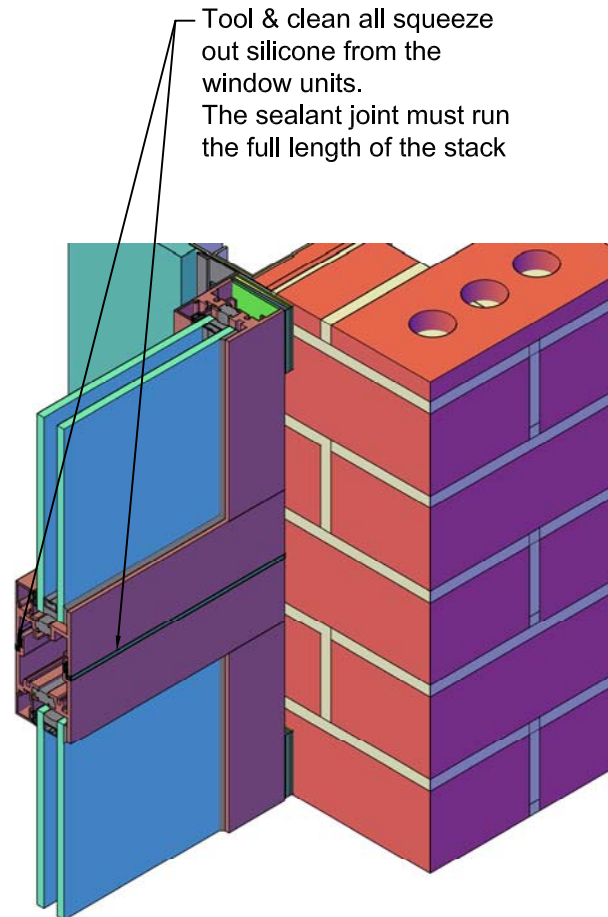

Fig. 9
8) Position the second window unit in place. Tool & clean all squeeze out silicone from the window units. The sealant joint must run the full length of the stack. See Fig. 9